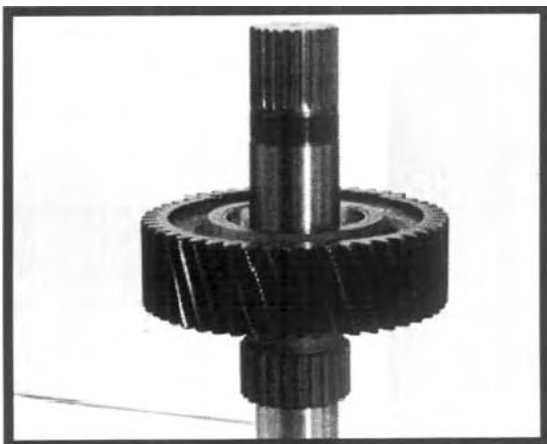

Figure 6.3
- Position the gear assembly onto the shaft. The face of the gear with the internal clutch splines must face downward. See Figure 6.3.